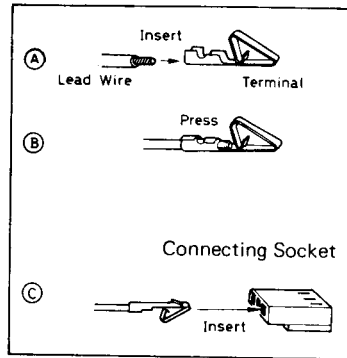

Fig. 5
1. As shown in figure 5 (A), insert the lead wire into the terminal.
2. As shown in figure 5 (B), press the terminal to secure the lead wire.
3. As shown in figure 5 (C), insert into a connecting socket.